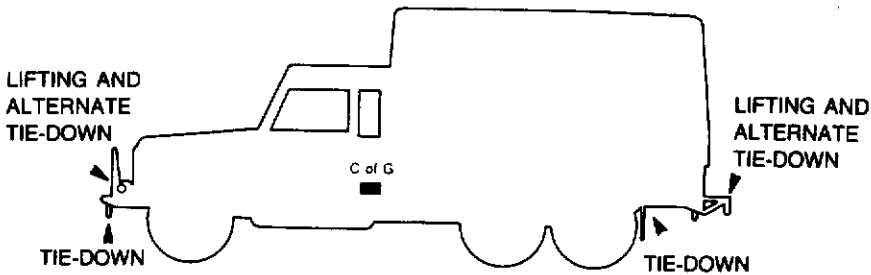

Figure 1-3 Slings and tie-down points
34. Slings and tie-down points are illustrated in Fig. 1-3.